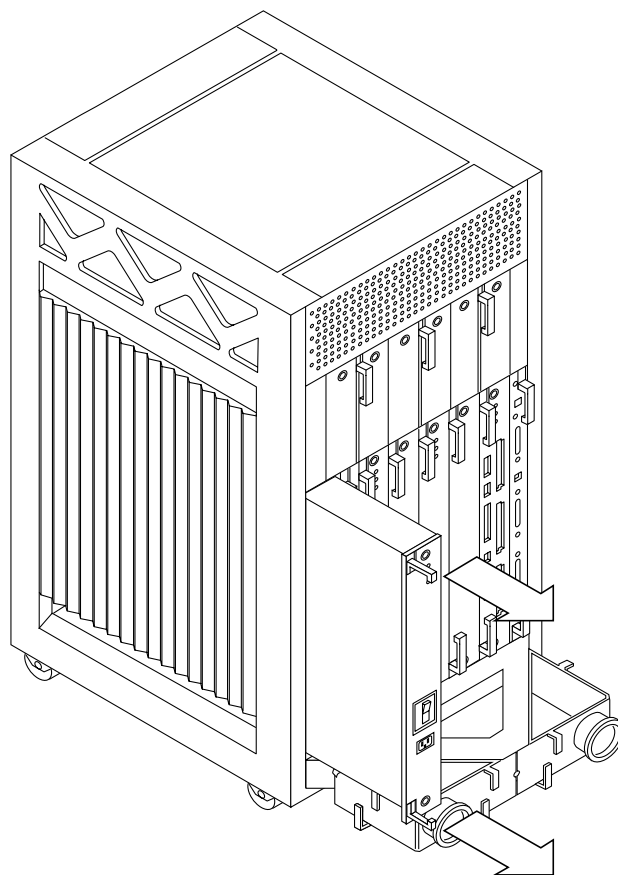

FIGURE 7-4 Replacing the Peripheral Power Supply/AC Input
5. **Pull out the power supply (FIGURE 7-4).**